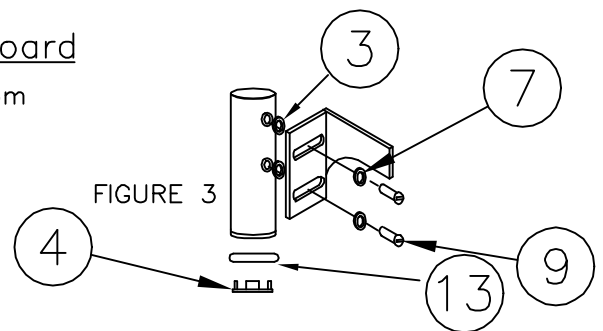

FIGURE 3
Insert plastic glide (4) with foot connector (13) into bottom of footboard post. Do the same in other post. (To firmly insert glide, you may need to use a padded hammer). (Figure 3)
Align frame over holes in footboard. (Figure 3)